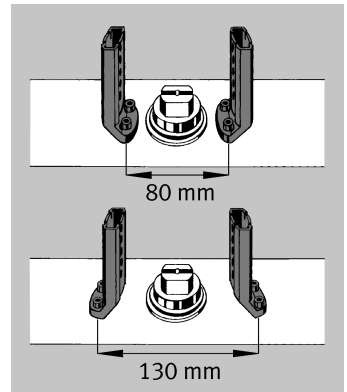

Fig. 4
2. Define the foot position suitable for the way in which the limit switch attachment is mounted on the quarter turn actuator (→ Fig. 4).